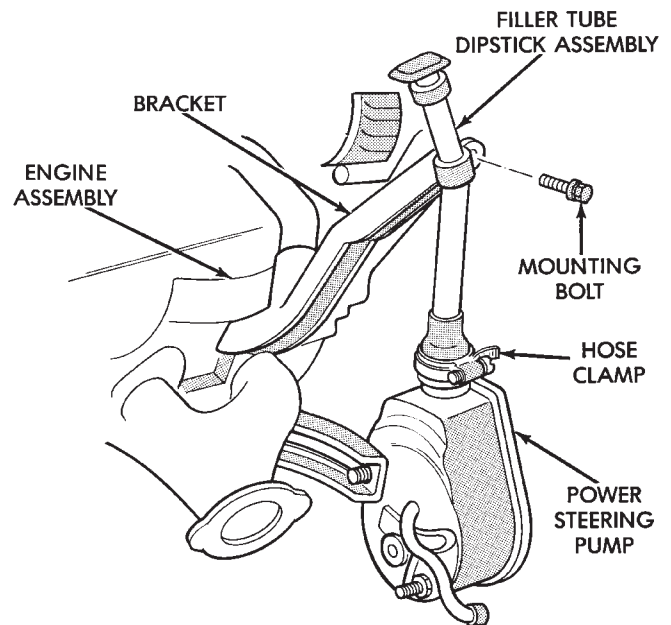
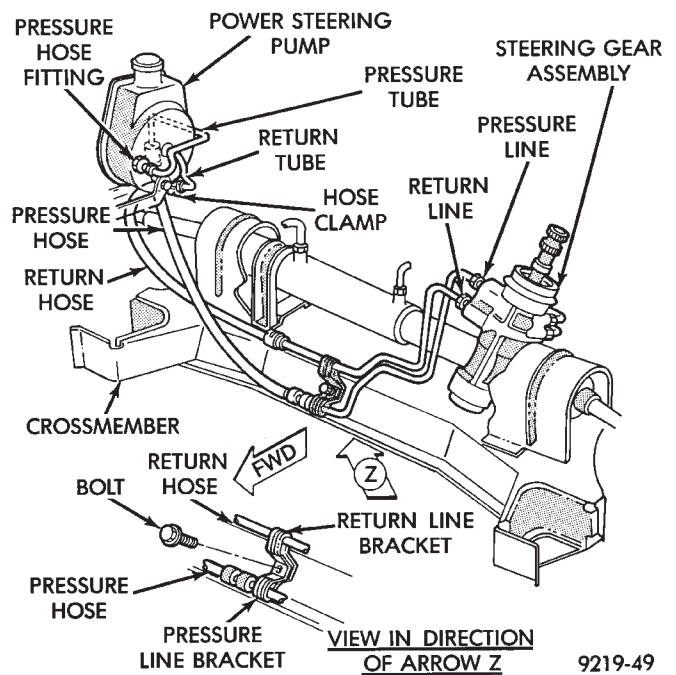

Fig. 5 Power Steering Pump Filler Tube/Dipstick Assembly
Fig. 6 Power Steering Hose Remove/Replace
(3) Remove the hose clamp and bolt mounting the power steering pump filler tube and dipstick assembly (Fig. 5) to power steering pump and alternator bracket. Remove filler tube and dipstick assembly from power steering pump.
(4) Raise vehicle See Hoisting, Group 0.
(5) Remove the 2 nut, bolt and spring assemblies attaching the exhaust pipe to exhaust manifold. Remove exhaust pipe from exhaust manifold and move to left side of vehicle. **This is required for clearance to remove power steering pump from vehicle.**
(6) Put oil drain pan under vehicle to catch power steering fluid. Remove hose clamp and low pressure fluid hose, from power steering gear fluid tube (Fig. 6). Allow excess power steering fluid to drain from power steering pump and hose.
(7) Loosen the high pressure power steering fluid line fitting at the power steering pump (Fig. 6). Then remove high pressure power steering fluid line from power steering pump.
(5) Install the high pressure power steering fluid line on the power steering pump outlet fitting (Fig. 6). Torque the high pressure fluid line to power steering pump fitting to 31 N•m (275 in. lbs.).
(6) Install the low pressure power steering fluid hose onto the power steering gear fluid tube (Fig. 6). Install hose clamp on hose. **Be sure hose clamp is installed beyond upset bead on tube.**
(7) Install the exhaust pipe back on the exhaust manifold. Install the nut, bolt and spring assemblies and torque bolts to 28 N•m (250 in. lbs.).
(8) Lower vehicle.
(9) Install the power steering pump filler tube and dip stick assembly on the neck of the power steering pump (Fig. 5). Install the bolt (Fig. 5) attaching the filler tube/dip stick assembly to the alternator bracket. Torque the bolt to 11 N•m (100 in. lbs.).
(10) Position the hose clamp on the filler tube assembly rubber boot and adequately tighten hose clamp.